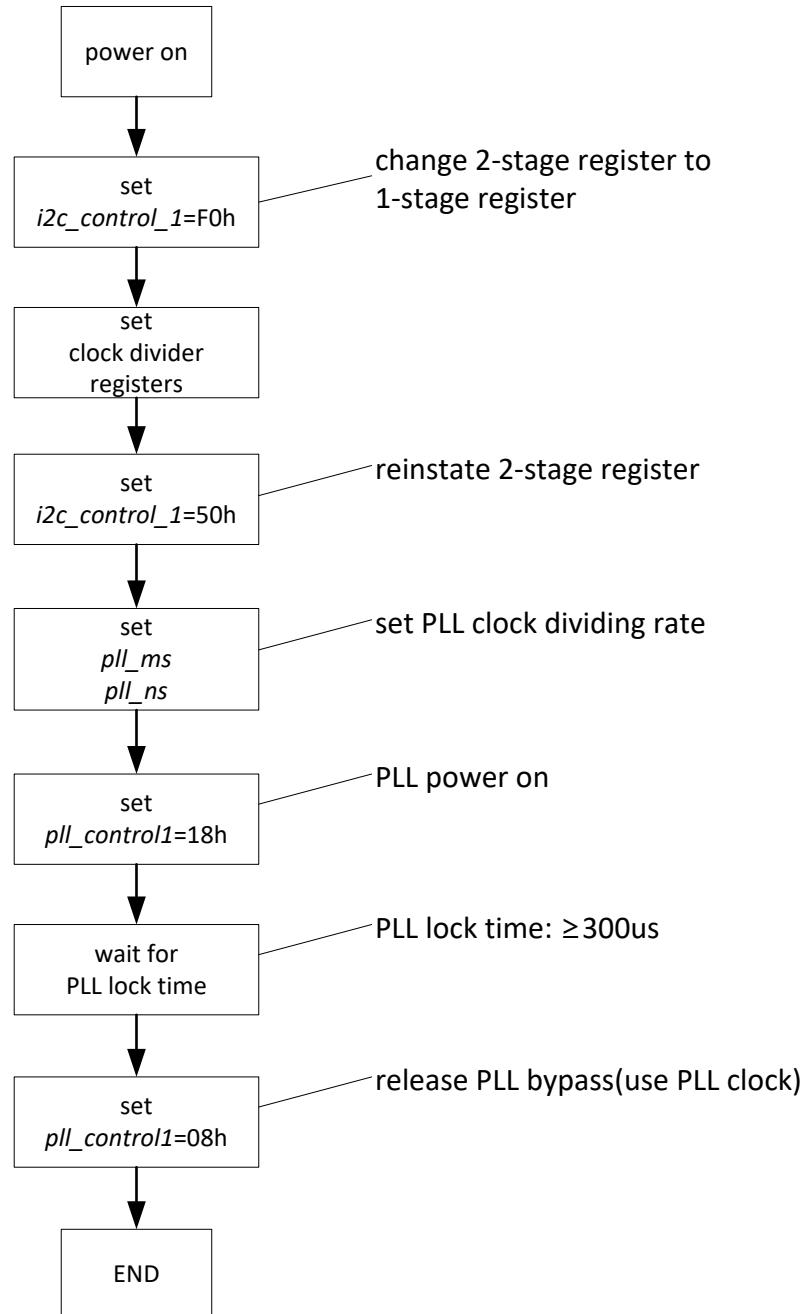

Figure 17 Clock setting sequence
- When using PLL, set-up sequence, show Figure 17, is necessary.